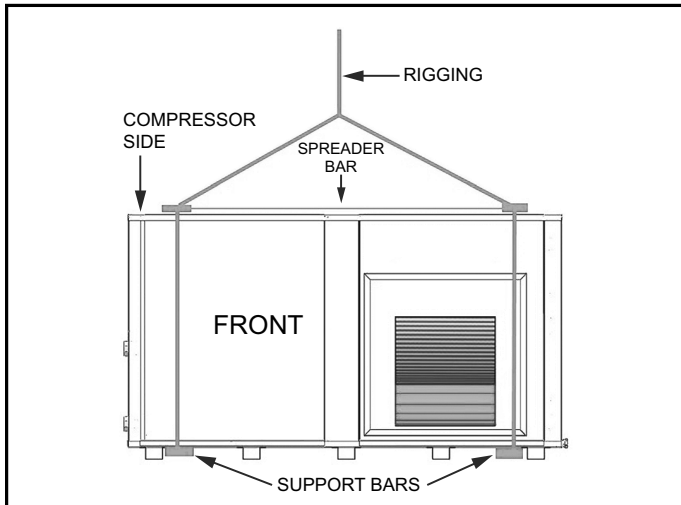
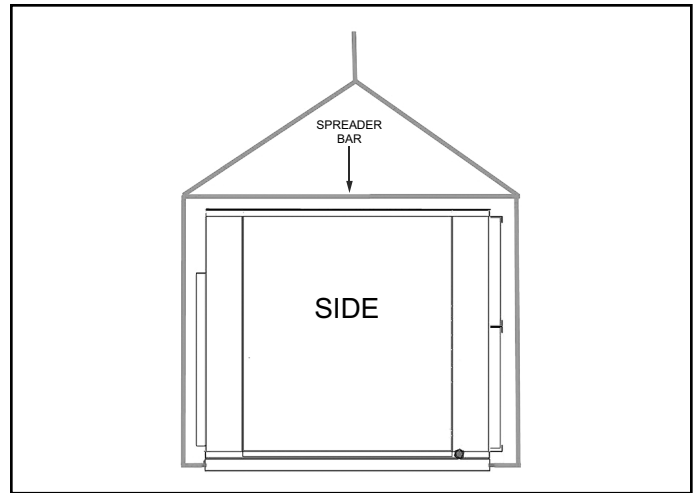
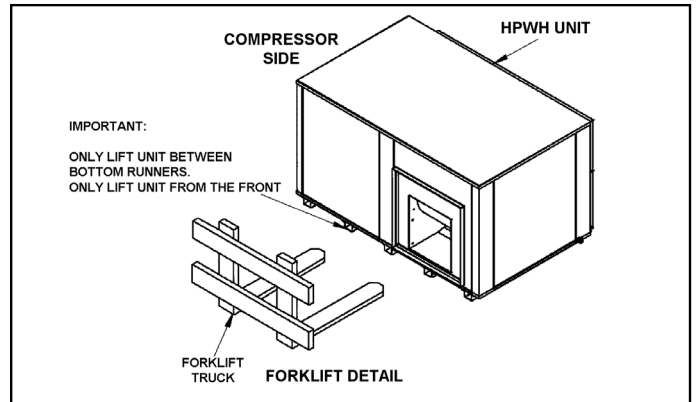

Figure 4
Figure 5
Figure 6
- Do not hoist the unit with chains or straps unless spreader bars are furnished and used as depicted in Figure 4 and Figure 5. The side panels and roof of the unit are not constructed to handle significant force from the sides or above.
- The HPWH unit is heaviest on the compressor side (left side when facing the front of the unit). See Figure 4 and Figure 6.
- When using a forklift to raise the HPWH unit ensure the forks are positioned correctly between the runners on the bottom of the HPWH unit. See Figure 6.
- The HPWH unit must be lifted from the front side only when using a forklift to raise the unit. See Figure 6.